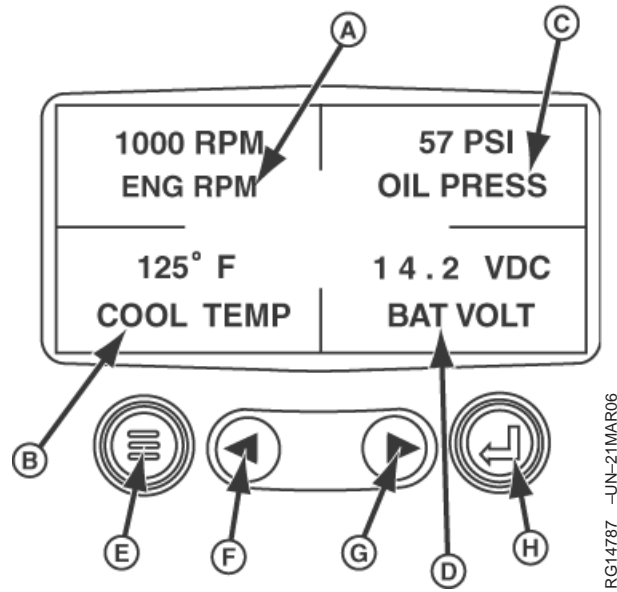

Figure 2. Normal Operation, Four-Parameter Display
- Once this item is highlighted, press the enter key (H). The four-parameter display (fig. 2) appears.